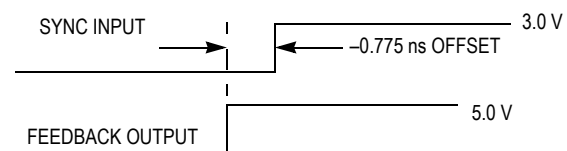

Figure 4. Depiction of the Fixed SYNC to Feedback Offset (t_{PD}) Which is Present When a 470 kΩ Resistor is Tied to V_{CC} or Ground
4. A $1 \text{ M}\Omega$ resistor tied to either Analog V_{CC} or Analog GND, depicted in Figure 4, is required to ensure no jitter is present on the MC88915 outputs. This technique causes a phase offset between the SYNC input and the output connected to the FEEDBACK input, measured at the input pins. The t_{PD} spec describes how this offset varies with process, temperature, and voltage. The specs were determined by measuring the phase